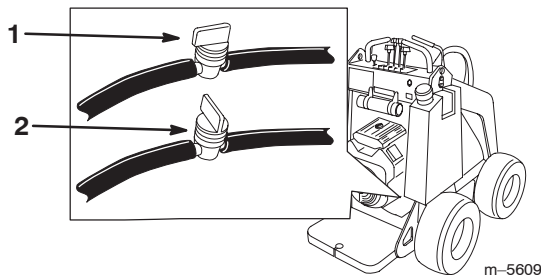

Figure 28
2. Shut off the fuel valve on the bottom of each fuel tank (Fig. 28).
3. Shut off the fuel valve in the hose near the bottom of the fuel tank (Fig. 28).
8. Open the fuel valve in the hose near the bottom of the fuel tank as illustrated in Figure 28.